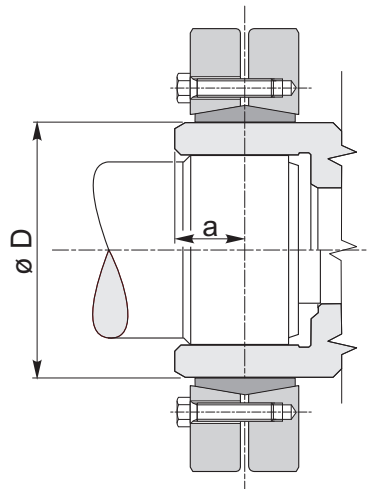

Fig. 17
- Position the centreline of the coupling on the centreline of the useful section of the shaft, see Fig. 17 (pag. 29); for this, comply with dimension "a", which will vary depending of the size of the coupling, as given in the tables below.